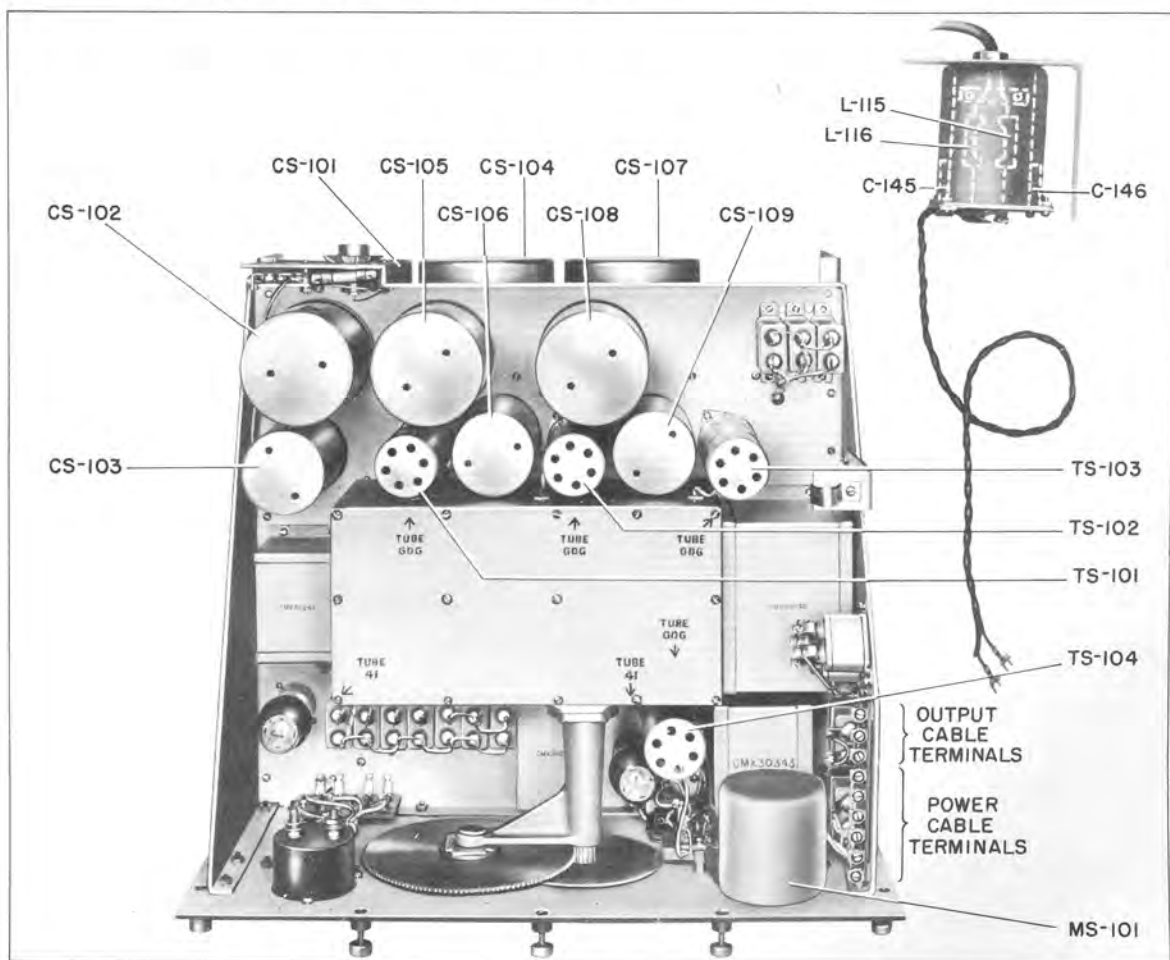

Figure 2—Receiver Unit CMX-46156-A (Top View of Chassis)
- 7.2-1 The tube locations are shown in Figures 2 and 16.
8.2-1 As indicated in Figure 15, the receiver unit is designed for table mounting. The cabinet may be permanently fastened to the table and the chassis is removable for access to tubes, for servicing, and for cable connections. All components are mounted on the chassis or panel forming a single assembly (see Figures 2, 3, and 6). Audio and AVC components are mounted directly behind the panel with filter and audio tuning units at the right, the first audio and output tubes in the center, and the AVC circuit at the left. Audio wiring, resistors, etc., are located beneath the chassis. The tuning condenser assembly is located just back of the audio components. The top plate on the condenser assembly is removable for inspection. At the rear of the chassis are located the r-f and detector tubes and the r-f coils, which are protected and shielded by screw cans. The power terminals are located at the right of the chassis and the antenna and ground terminals at the left. The band switch, r-f components and wiring are located beneath the chassis in a fabricated shield box. The large cover plate on the bottom of the receiver is removable for inspection and access to these parts.
- 9.7-3 An output cable filter assembly consisting of series coils L115 and L116 and by-pass capacitors C145 and C146 prevents signal pick-up on the phone leads and output cable connecting the control box to the receiver. It is mounted in a shielding can which prevents any direct radiation when assembled inside the receiver cabinet. This filter unit is mounted in the cabinet and is illustrated in Figure 2.